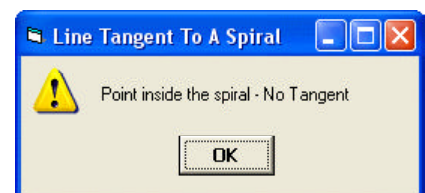

Figure 11
- The inside of the spiral, the warning message box of Figure 11 is displayed informing the user that a tangent line cannot be created.